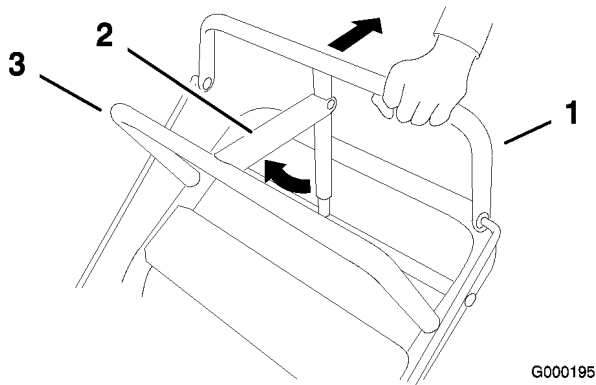

Figure 19
1. Pull the upper control bar (Figure 19) rearward and hold it in this position.
2. Lift the parking brake lock (Figure 19) up and gradually release the upper control bar. The brake lock should stay in the set (locked) position.